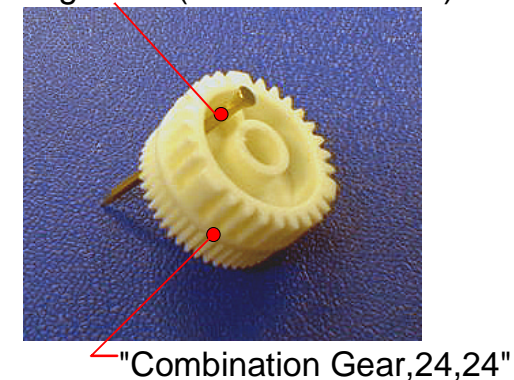

Figure 4-174. Preparation Before Installing "Combination Gear,24,24"
42. Insert a needle(diameter 2.0mm) for adjusting alignment to the hole on the "Combination Gear,24,24". At this time, insert the needle from big gear side to the smaller gear side. (See figure 4-174)